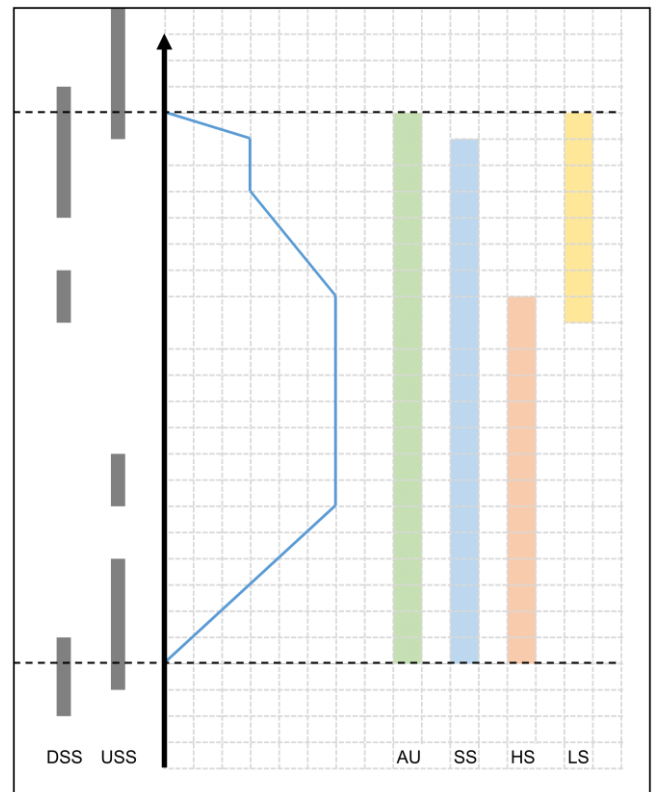

Figure 10
**SS** programmable output activates only during upwards movements, as shown in Figure 10.